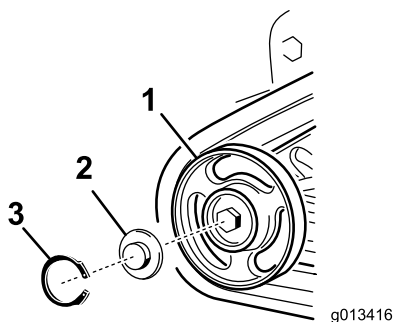

Figure 48
3. Check the grease under the cap and around the gasket (Figure 48). If it is dirty, gritty, or depleted, clean out all of the grease, replace the gasket, and add new grease.
5. Place the greased road wheel cap over the bolt head (Figure 48).
6. Secure the road wheel cap with the snap ring (Figure 48).
2. Remove the snap ring and cap from a road wheel (Figure 48).